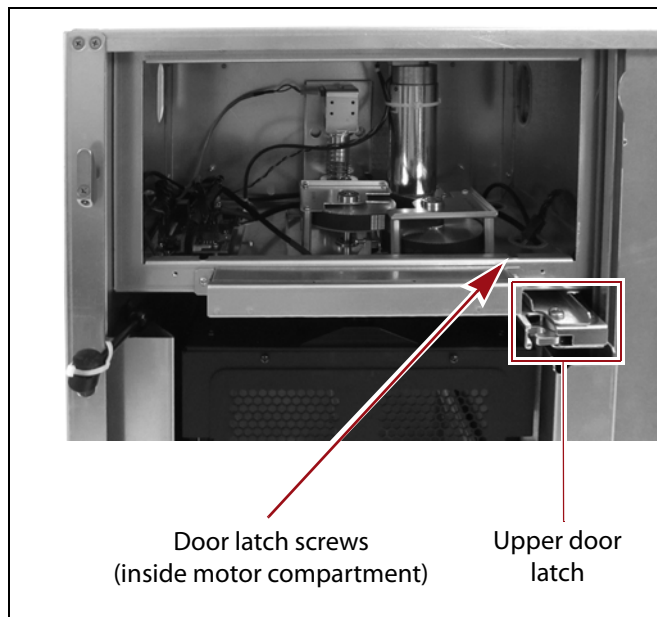

Figure 43 Locate the upper latch screws.
- If you are replacing the upper door latch, the screws are in the carousel motor compartment (see Figure 43).